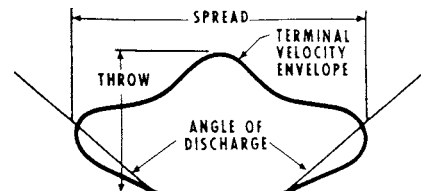

Fig. 14-20 Typical air-stream pattern. (Tuttle & Bailey)
- *Noise criteria (NC)* is an outlet sound rating in pressure level at a given condition of operation, based on established criteria and a specific room acoustic absorption value.
- *Spread* is the measurement (in feet) of the maximum width of the air pattern at the point of terminal velocity. See Fig. 14-20.